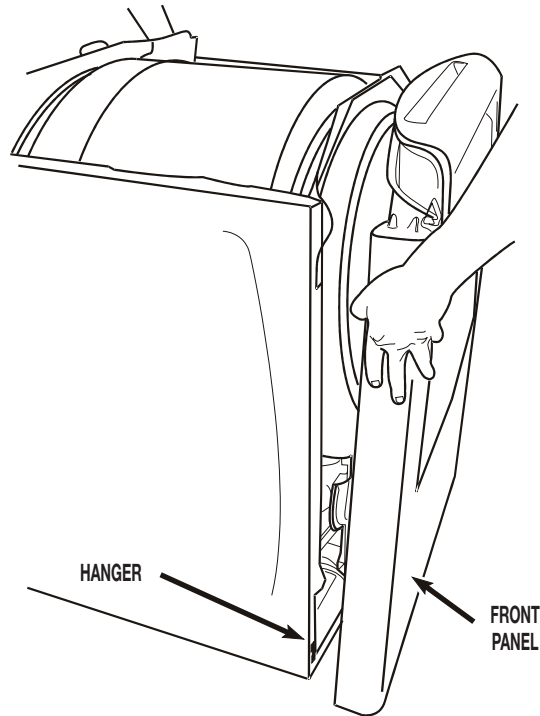

FIGURE 3
4. Lift the front panel, unhook it from the bottom two hangers and remove the panel. See *Figure 3*.